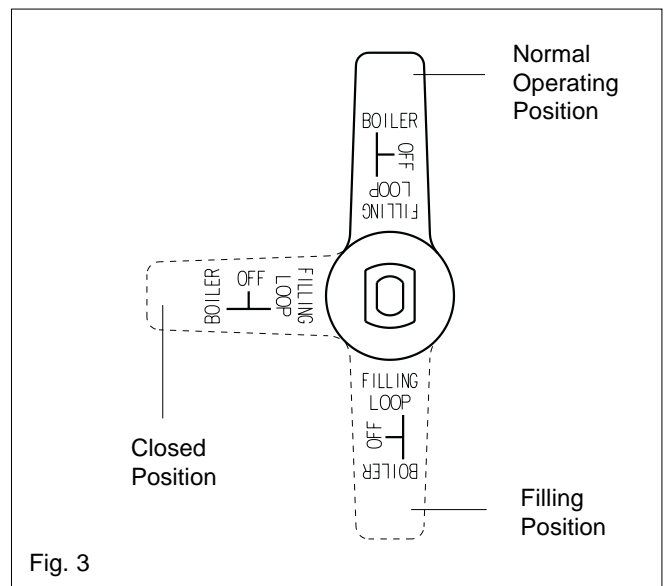

Fig. 3
- Move the filling valve (Right) slowly to the fill position (fig. 3) until you hear water entering the system.
- Move the filling valve back to its normal position (fig. 3) when the pressure gauge (on the boiler) reads between 1 and 1.5 BAR.